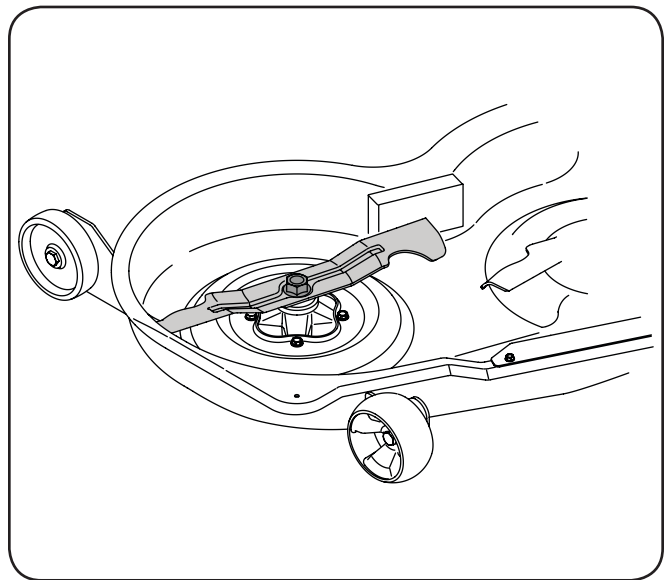

**Figure 7-5**
2. Place a block of wood between the center deck housing baffle and the cutting blade to act as a stabilizer. See Fig. 7-5.
3. Remove the hex flange nut that secures the blade to the spindle assembly. See Fig. 7-5.